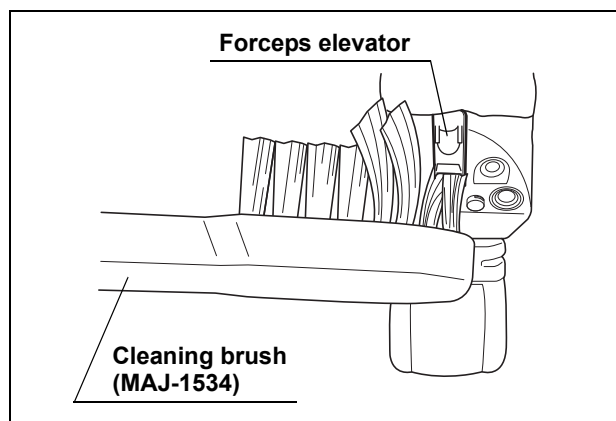

Figure 7.30
6. While holding the distal end, brush both sides of the forceps elevator and the opposite side of the groove of the forceps elevator with the cleaning brush (MAJ-1534) until all debris is removed (see Figure 7.30).